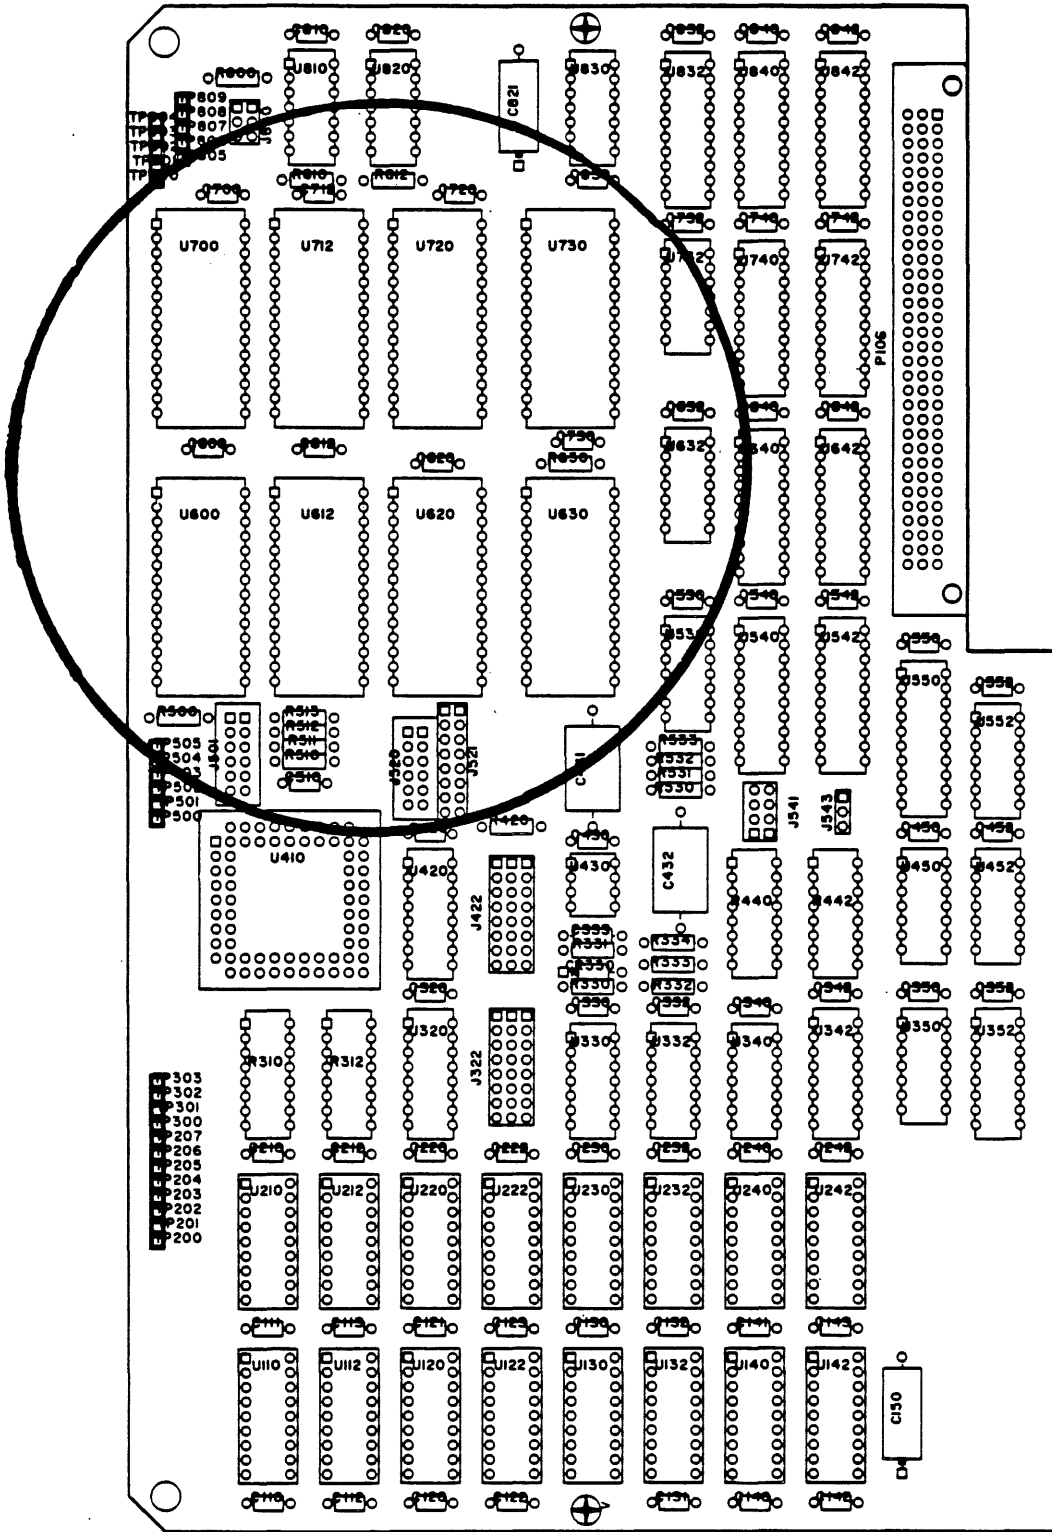

Figure 3. A18 Memory Board.
- b. On the Memory Board, replace the following IC's (see Figure 3 at the end of these instructions):